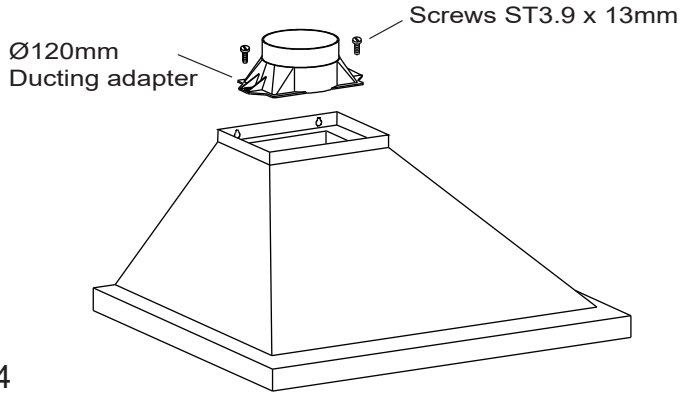

Fig.4
- Connect Ø120mm ducting adapter to the blower outlet and use ST3.9 x 13mm screws to fix it to the range hood (Fig. 4).